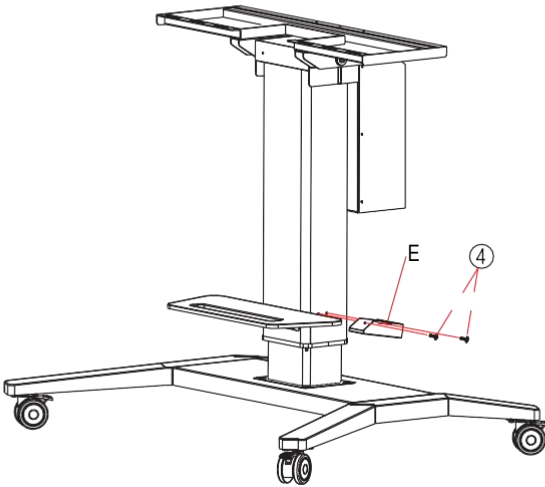

figure 4
Step4: Install the Control pad box E on the lifting column B (figure 4).